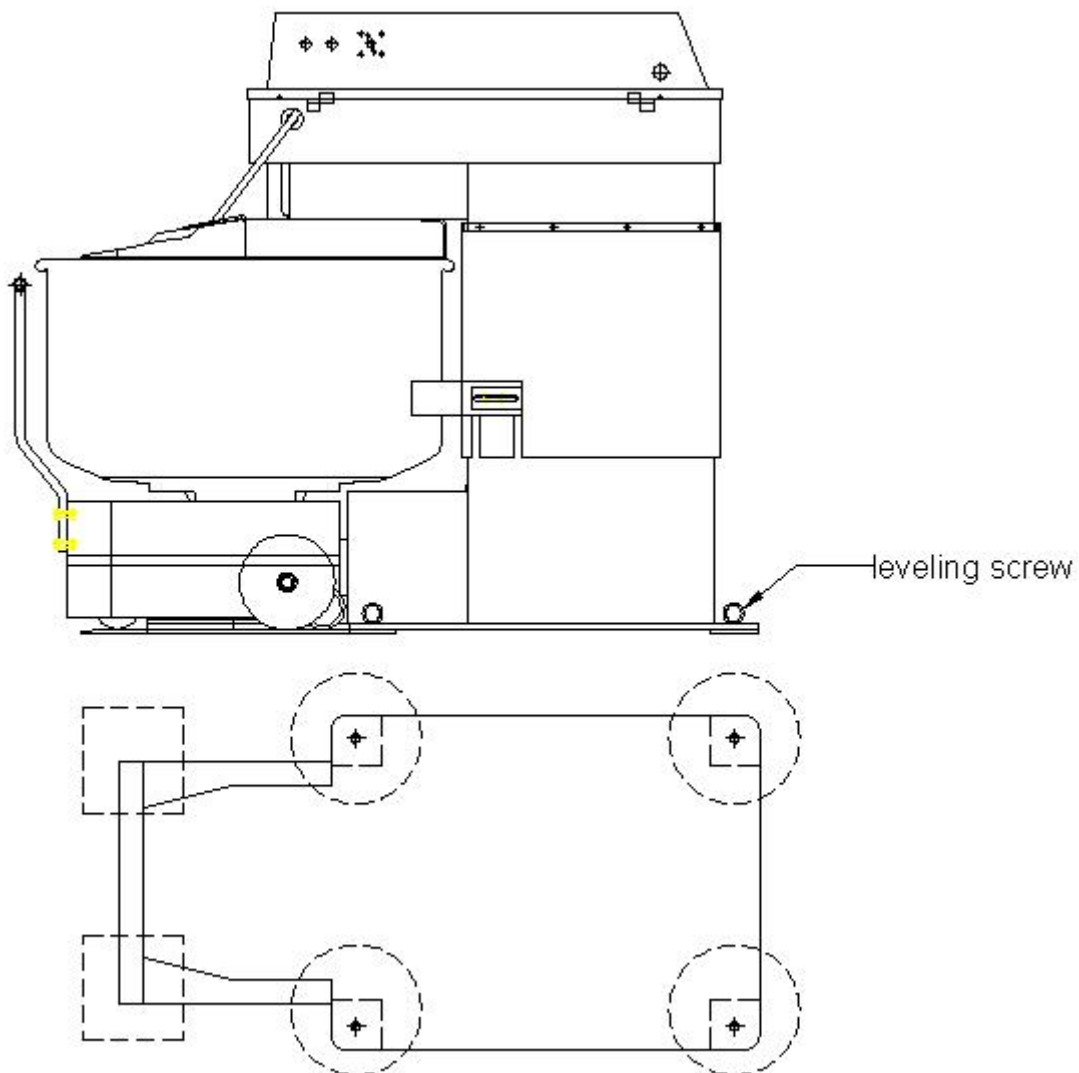

Figure 3
- 4) Take our leveling screws. At its position, put washer bolt to fix the machine firmly to the ground as shown in Figure 3.